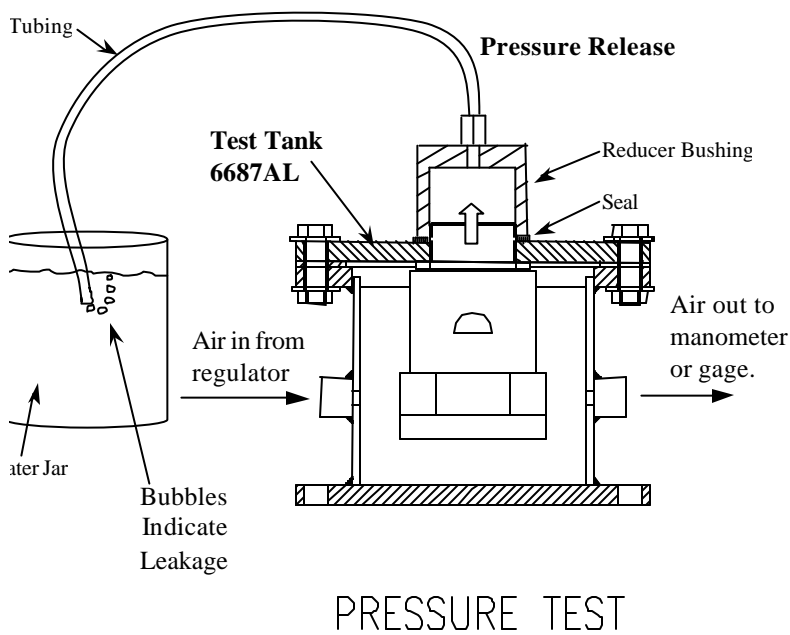

Figure 1
1.1.1. Screw the Normal Vent into the lid of the test tank as shown in figure 1. In order to detect leakage, attach the reducer bushing, compression fitting, and tubing. Place the end of the tubing in a water jar. The water jar is not included with the test tank.
- 2.1.1. Screw the Normal Vent into the lid of the test tank as shown in figure 1.